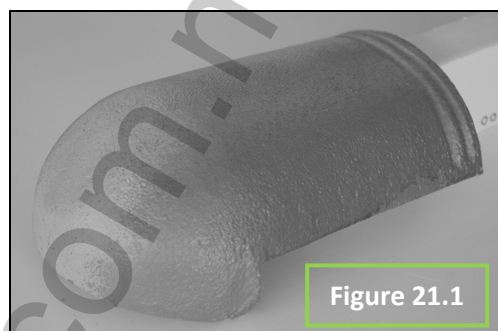

Figure 21.1
- ✚ The hip starter is the first to be installed at the hip and must be attached properly (*Fig. 21.1*)